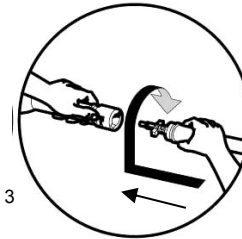

Fig. 3
3. Once the high pressure hose is connected to the unit, you can attach the lance to the end of the trigger gun. (Fig. 3)